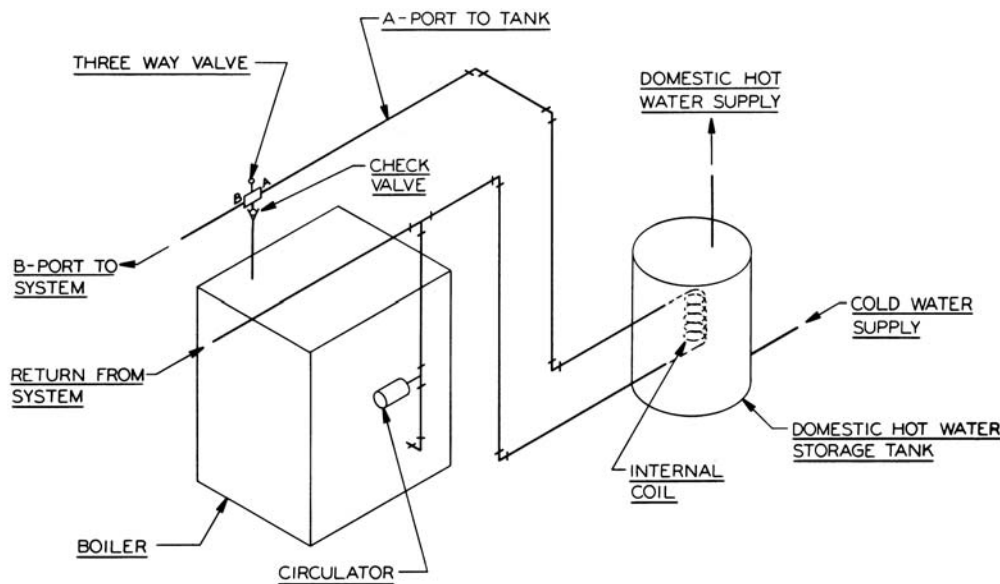

Figure 3.4
1. If a water boiler is to be used in conjunction with an indirect-fired water heater refer to Figure 3.4 for typical piping. Also refer to additional instructions supplied with tank.